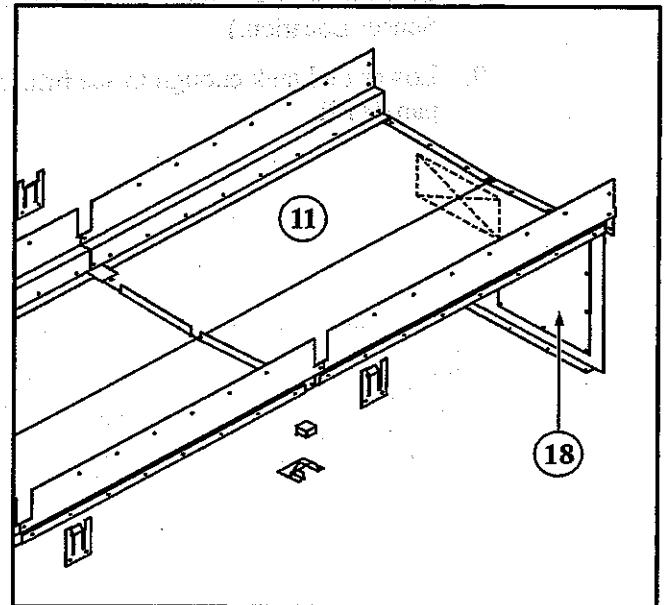

Figure 3—Fuel Tank Fitting Access Panel
1. Remove the access panel (18) from the luggage compartment (11). (See Figure 3—Fuel Tank Fitting Access Panel.)